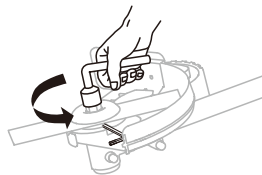

Fig.5A
4. Insert the hex wrench provided into the hole to act as a stabilizer and loosen the nut with the socket wrench provided. (Fig.5A)
3. Insert the hex wrench provided into the aligned holes to act as a stabilizer. Use the socket wrench provided to tighten the nut COUNTERCLOCKWISE securely onto the shaft (Fig.5A).